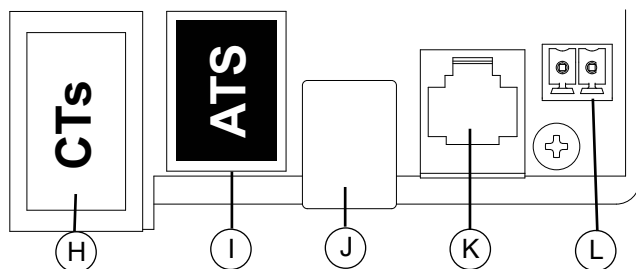

Figure 5-3. Accessory Ports
- The Inverter ATS Control port on the PWRcell ATS controller is wired to the inverter “ATS” port via Cat 5 cable. The inverter “ATS” port is labeled 'I' in Figure 5-3.
- The “Inverter CTs” port on the PWRcell ATS controller is wired to the inverter “CTs” port via Cat 5 cable. The inverter “CTs” port is labeled 'H' in Figure 5-3.
- The “Inverter ATS Control” port on the inverter PWRcell ATS controller is wired to the inverter “ATS” port via Cat 5 cable. The inverter “ATS” port is labeled 'I' in Figure 5-3.
- The “Inverter CTs” port on the generator PWRcell ATS controller is wired to the inverter “CTs” port via Cat 5 cable. The inverter “CTs” port is labeled 'H' in Figure 5-3.